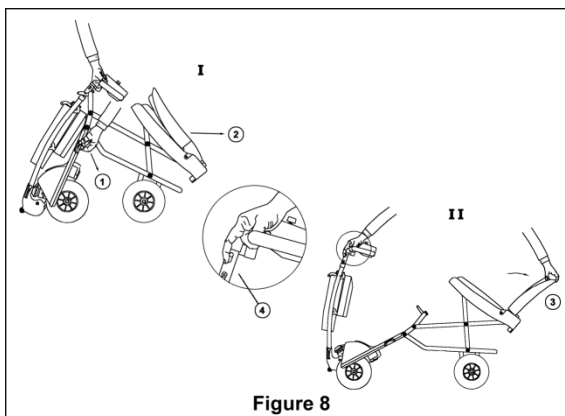

Figure 8
Step 1: Pull on the frame lock pin ring (Fig. 8/1) to release platform and rest front wheels on floor.
Step 2: Pull the seat backrest and lift it upright. (Fig. 8/2)
Step 3: Grasp top of seat backrest (Fig. 8/3) and pull column lock triggers (Fig. 8/4) to release column from platform. Pull outwards to unfold *EasyTravel Elite* until platform and column lock into the operating position.